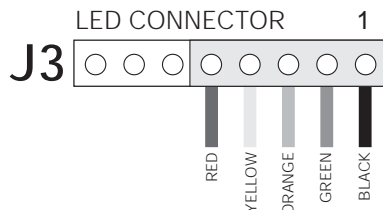

Figure 2-2. LED Cable Plug on J3 Connector
16. Plug LED annunciator cable plug into connector J3 on the Remote I/O Interface board. Ensure the black wire of the 5-pin cable plug is attached to pin 1 on the J3 connector (see Figure 2-2).